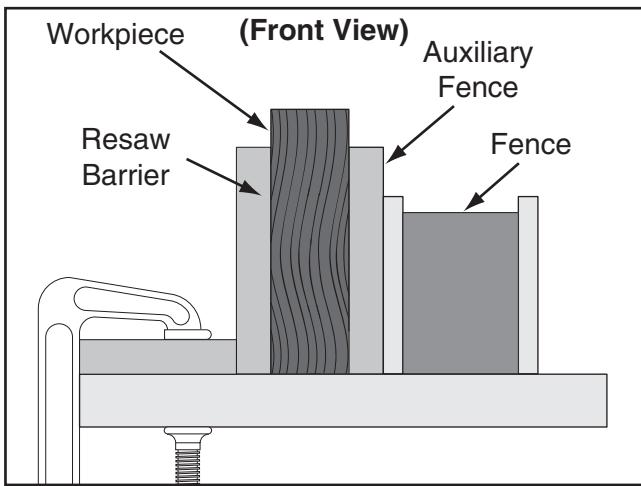

Figure 65. Ideal resaw workpiece setup.
- Place the workpiece against the auxiliary fence and slide the resaw barrier against the workpiece, as shown in **Figure 65**. Now clamp the resaw barrier to the top of the table saw at both ends.